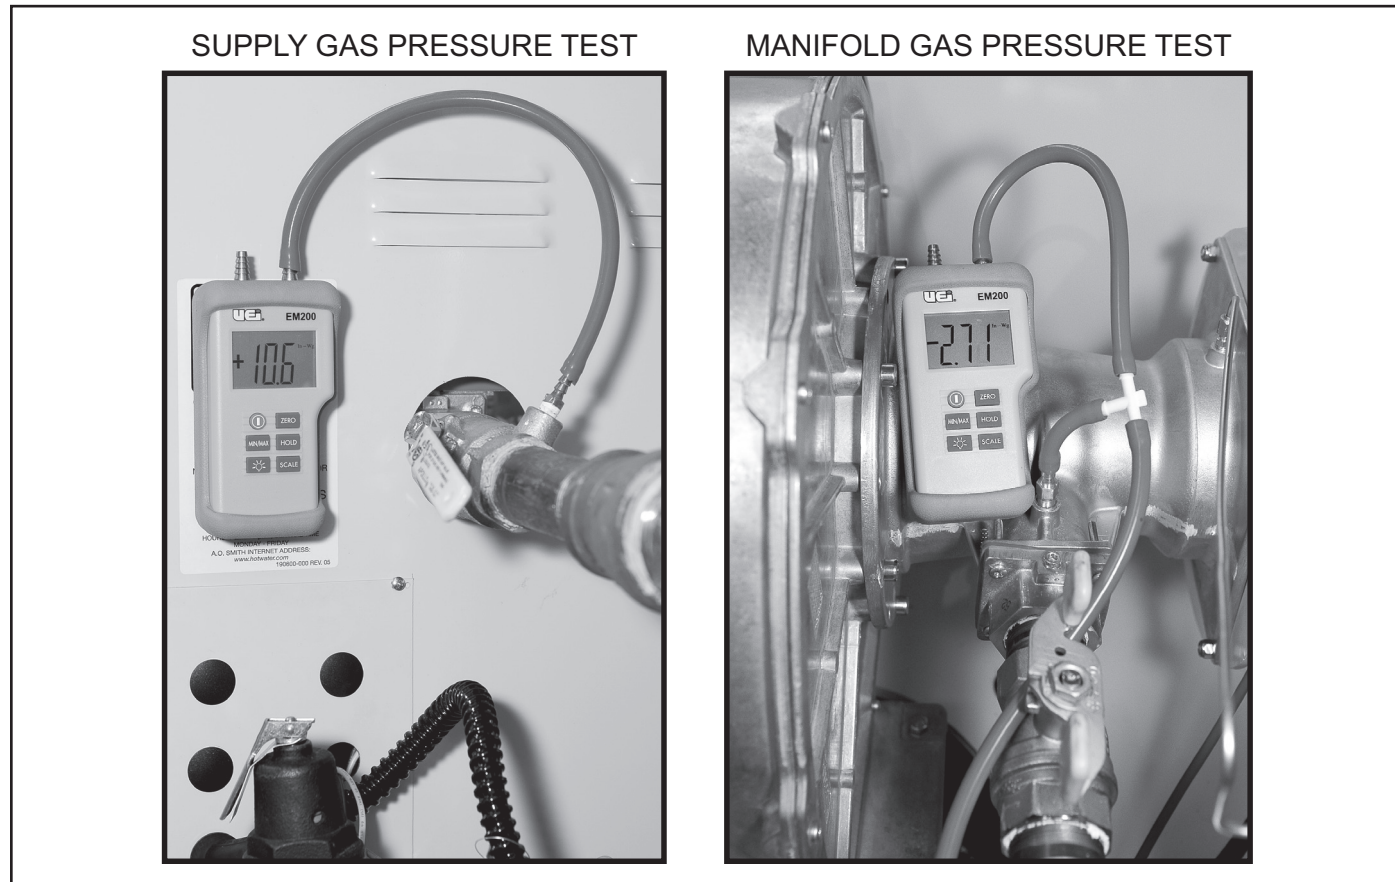
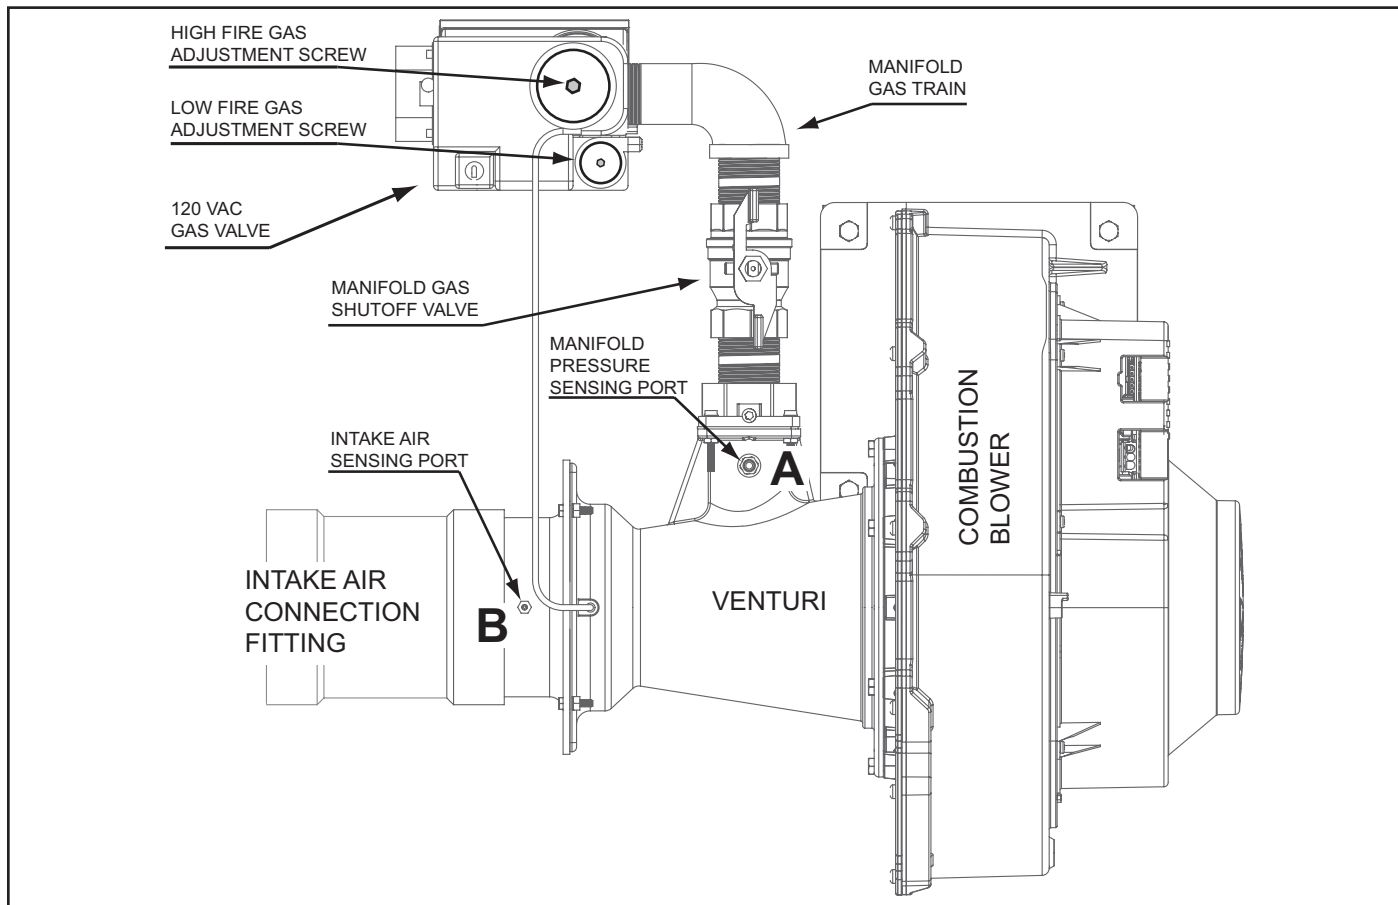

Figure 27
Figure 28
3. Using a plastic Tee fitting and flexible tubing (see Tools Required on page 3) install the Tee fitting in-line with the Boiler's pressure switch sensing tube connected to the Manifold Pressure Sensing Port on the Manifold Gas Train. Connect a digital manometer to the branch connection on the Tee fitting with flexible tubing, see Figure 27 on page 37 and Figure 28 on page 38.
4. Turn off the supply gas to the Boiler upstream from the Boiler in the supply gas line. Remove the 1/8" NPT pipe plug from factory installed supply gas shutoff valve on the Boiler. Install a 1/8" barbed fitting adapter into the threaded opening on the shutoff valve body and connect a manometer to the barbed fitting using flexible tubing, see Figure 27 on page 37.
12. Verify proper operating sequence prior to Start Up. Close the Manifold Gas Shutoff Valve, see Figure 28 on page 38. Energize the branch circuit supplying power to the Boiler and turn the Boiler's on/off switch to the on position. Ensure the Operating Setpoint is set high enough to activate a heating cycle, see Operating Setpoint Adjustment on page 43. If an external control is using the Boiler's Enable/Disable circuit ensure the external that control's contacts are closed, see Boiler Controls on page 6. If there is no external control using the Boiler's Enable/Disable circuit ensure the two wires provided for this circuit are wire nipped together in the junction box on the back of the Boiler, see Figure 1 on page 6.
13. Open the Manifold Gas Shutoff Valve, see Figure 28 on page 38.
Remove the round blue plastic cap from the top of the Boiler's 120 VAC Gas Valve. Using a 3mm (7/64") hex wrench, turn the high fire adjustment screw under the cap counterclockwise to increase or clockwise to decrease gas flow until the desired CO₂ level is reached, see Figure 28 on page 38. Increasing the gas flow will increase CO₂ levels in the vent gases, decreasing gas flow will reduce CO₂ levels. Reinstall blue cap when adjustments are complete. CO readings should be less than 200 ppm (parts per million).
Remove the small metal slotted cap near the outlet of the Boiler's 24 VAC gas valve. Using a TORX® T40 or a 5mm hex wrench turn the low fire adjustment screw under the cap clockwise to increase or counterclockwise to decrease gas flow until the desired CO₂ level is reached, see Figure 28 on page 38. Increasing the gas flow will increase CO₂ levels in the vent gases, decreasing gas flow will reduce CO₂ levels. Reinstall the slotted cap when adjustments are complete. CO readings should be less than 200 ppm.
Using a plastic Tee fitting and flexible tubing (see Tools Required on page 3) install the Tee fitting in-line with the Boiler's pressure switch sensing tube connected to the Manifold Pressure Sensing Port on the Manifold Gas Train. Connect a digital manometer to the branch connection on the Tee fitting with flexible tubing, see Figure 27 on page 37 and Figure 28 below.